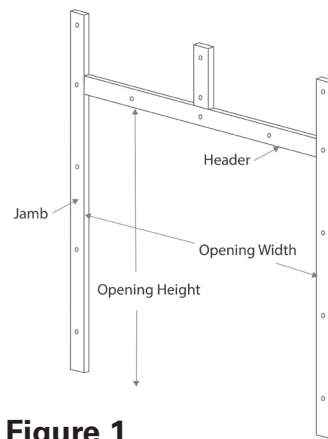

Figure 1
**Step 3:** Measure the top or header (Figure 1 & 3) of your garage door. Mark the measurement of the header with your pencil on the retainer (Figure 4).